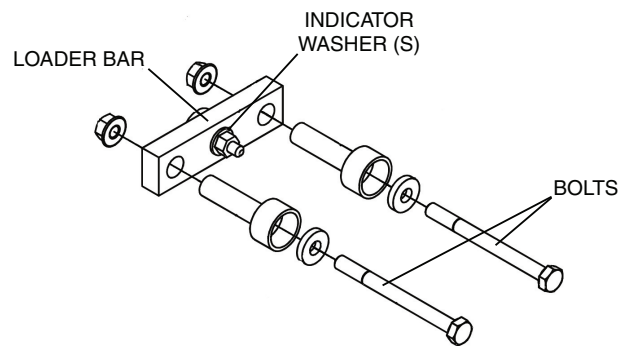

Fig. 55 — SCR Installation
- Finger tighten the clamp. Ensure both bolts are tightened an equal amount so that the loader bar is square in the heatsink. See Fig. 55.
- Tighten the bolts equally in $\frac{1}{8}$ turn increments until the indicator washer(s), which are under the nut(s) in the center of the loader bar becomes loose indicating that the clamp is tight. See Fig. 55. On the loader bars with two indicator washers, it may be necessary to tighten or loosen one side of the clamp to get both indicator washers free. Reconnect the red (cathode) wire from the SCR and the white (anode-gate) wire to the appropriate location on the firing card (i.e., SCR1 wires to firing card terminal G1-white wire, and K1-red wire).